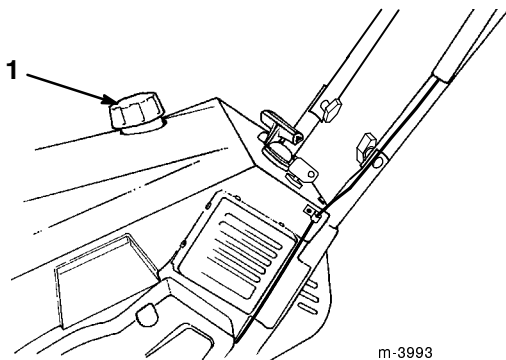

Figure 7
1. Clean around the fuel tank cap (Fig. 7)